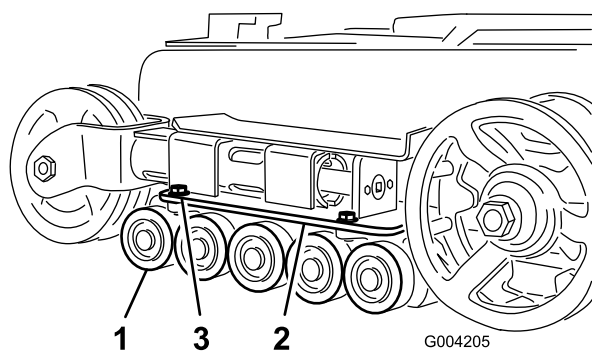

Figure 45
2. Remove the 4 bolts securing each lower track guide which contains the road wheels, and remove them (Figure 45).